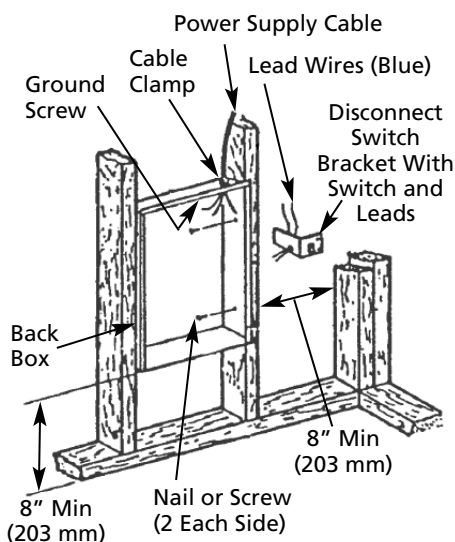

Figure 2 – Locating Recessed Back Box in New Construction
1. Mounting Back Box (See Figure 2, page 2).
- c. Secure the back box in position with wood screws or nails as shown in Figure 2.
2. Power Supply Wiring (See Figure 2).